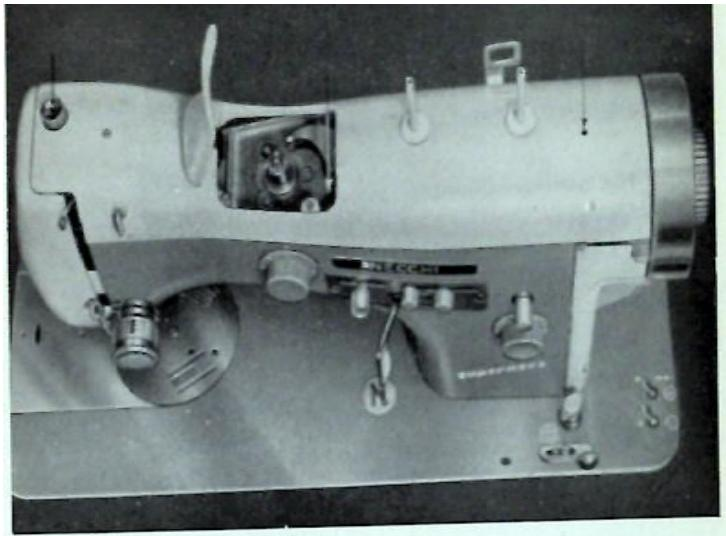

Figure 3
- a) Let fall one or two drops of oil into the oil-holes indicated in Figure 3. Please remember that not less than about twelve drops are to be put into the first oil hole on the right.